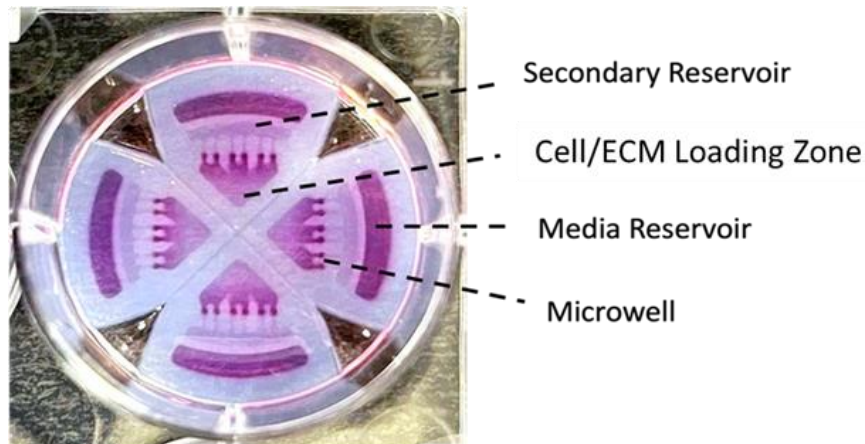

Fig. 1. Labeled Birds-Eye-View of the 3-in-1 Plate
- 1-1- Using an aseptic technique in a laminar flow hood, open the sealed bag and add 25 μL of culture media in the Cell/ECM Loading Zone (Fig. 1) of each compartment of the insert.
- 1-3- After the cells have settled into the microwells, gently rinse any additional cells stuck in the channels of the Cell/ECM Loading Zone by adding 70-100 μL of pre-warmed medium to the Cell/ECM Loading Zone. Then, aspirate that media by placing the pipette tip as close to the microwells as possible. Remove any additional media from the Secondary Reservoir (see Fig. 1). **Repeat the rinsing step if you observe any remaining single cells in the channels of the Cell/ECM Loading Zone.**
- 2-1-3- **Immune Cell Co-culture:** immune cells can be mixed with a secondary ECM at a certain concentration and added to the Secondary Reservoir (Fig. 1)⁸.